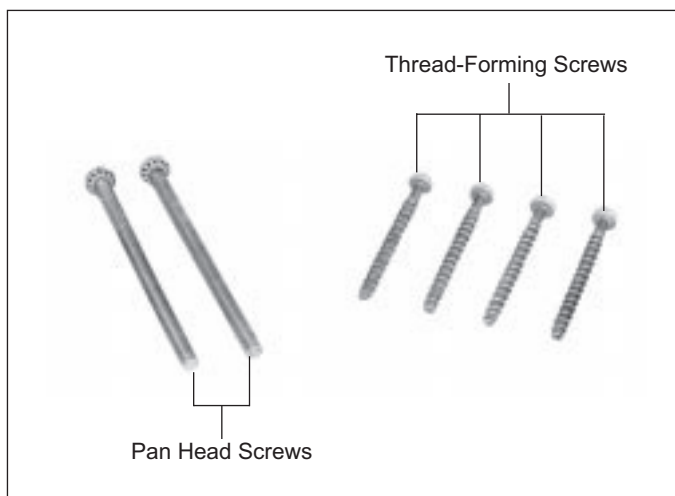

Figure 2-1 Cover Mounting Hardware
- 2.1. Make sure that the circuit breaker frame is suitable for the intended installation by comparing nameplate data with existing ratings and system requirements. Inspect the circuit breaker for completeness, and check for damage before mounting. Uninstalled cover mounting hardware is supplied in a plastic bag with the circuit breaker frame. (See Figure 2-1).